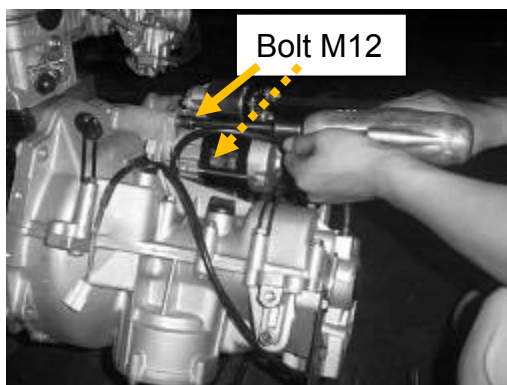
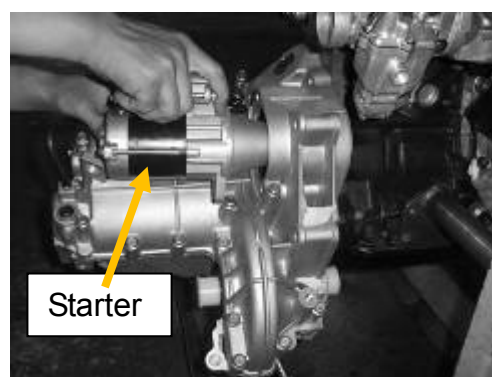

Figure 30
Figure 29
2. Remove two bolts (M12) on the starter (See Figure 30), Remove the starter (See Figure 29)